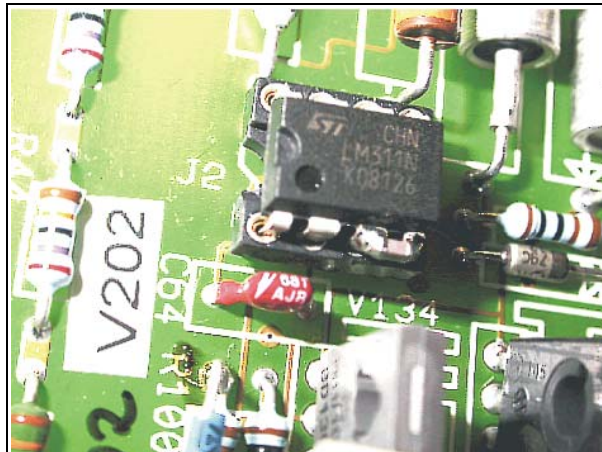

Fig. 3
3. **Exchange the comparators Type LM311, denoted as J2, J3, J5 and J1 (marked so from left to right on the built-in D710) for the supplied ones.** On those comparators note the Surface-mounted device (SMD) capacitors 30 86 865 soldered between pins 3 and 4, see Figure 3.